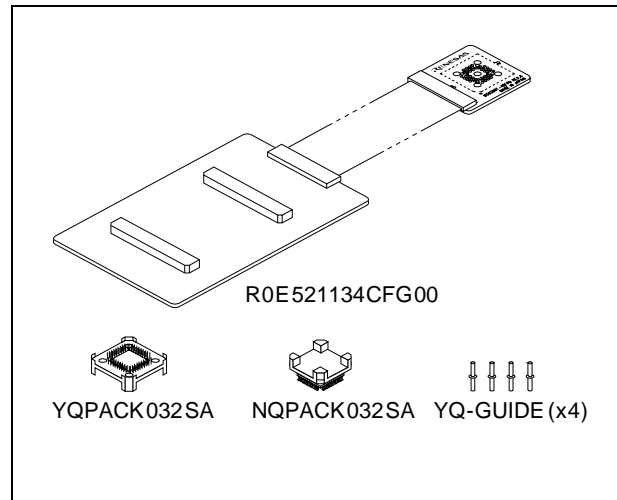

Figure 1 Package components of the R0E521134CFG00
2. Package Components (See Figure 1)